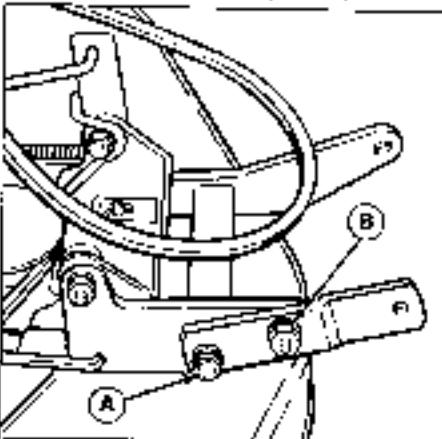

Figure 34. Mower Hitch (shown removed from tractor)
- Loosen the cap screw and flange nut in right mower hitch (figure 34).
- Retighten the cap screw (A, figure 34) and flange nut (B). Torque cap screw (A) to 50 ft. lbs. Torque nut (B) to 65 ft. lbs.